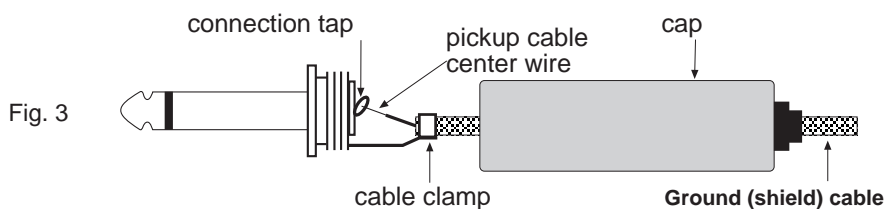

Fig. 3
8. Solder the saddle cable at the connection tap of the mini-jack and the protection cable at the cable clamp (Fig. 3).